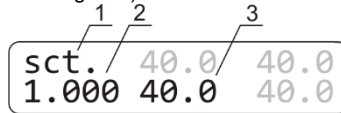

Figure 4. Display in calibration mode: 1. Calibration mode indicator; 2. Calibration coefficient; 3. Temperature with current coefficient
- 6.2. To change the calibration coefficient, hold the **↵ RUN/STOP** key pressed for more than 8 s to activate calibration mode, as shown on figure 4).
Note. Values marked in grey on figures 4 and 5 are not used in calibration and are meant for service engineers.
- 6.3. **Restoring factory settings.** Set 1.000 value using the **▲** and **▼ T, °C** keys as shown on fig. 4/1 to restore the factory settings. Press the **▶/■ RUN/STOP** key once to save the changes and exit the calibration mode.
- 6.4.5. Hold the **↵ RUN/STOP** key pressed for more than 8 s to activate calibration mode (figure 4).